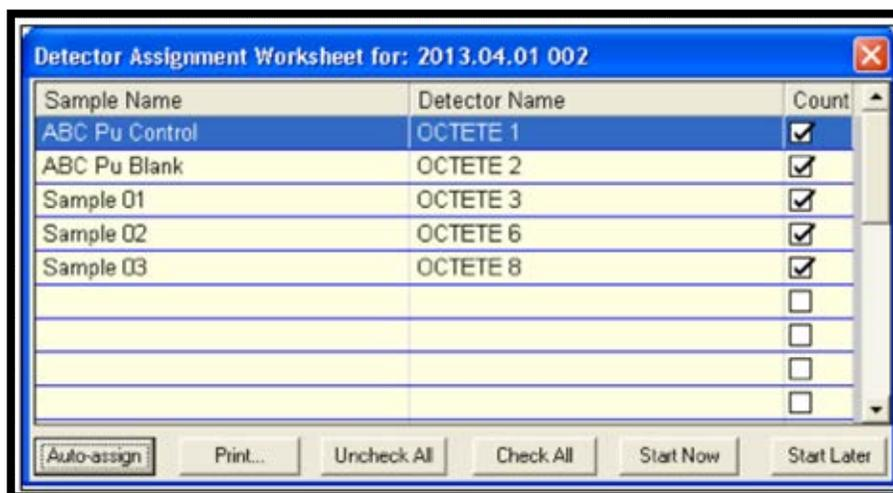

Figure 187. Detector Assignment Worksheet
- 23) When the wizard closes, the Detector Assignment Worksheet will open (Figure 187). This is the tool for assigning a detector to each sample in the batch and starting data acquisition. It is discussed in detail in Section 11.2. For this tutorial, it will be assumed there are enough alpha chambers available to count the 5 samples. Assign detectors automatically by clicking the **Auto-assign** button.